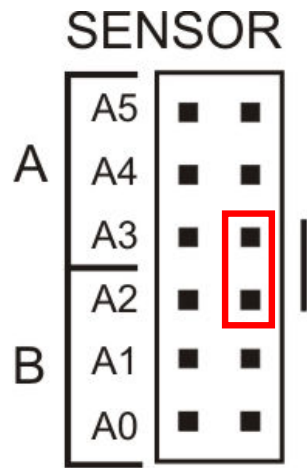

Figure 3. Current sensor jumper block
**Current Sense Jumpers:** The Infineon BTN7960B power chips used in the MegaMoto provide a current mirror output that reflects the current passing through the high side of the half-bridge inside each chip. This current is passed through a 634Ω resistor to provide a voltage that can be read by the Arduino CPU. Since the low side of the half-bridge provides no output on the current sensor pin, it is possible to connect the sensor outputs from both power chips in parallel. When the MegaMoto is configured as an H-bridge the current sense output of the connected sensor outputs properly reflects the current through the bridge in either direction. A close up of the SENSOR jumper block is shown in Figure 3.